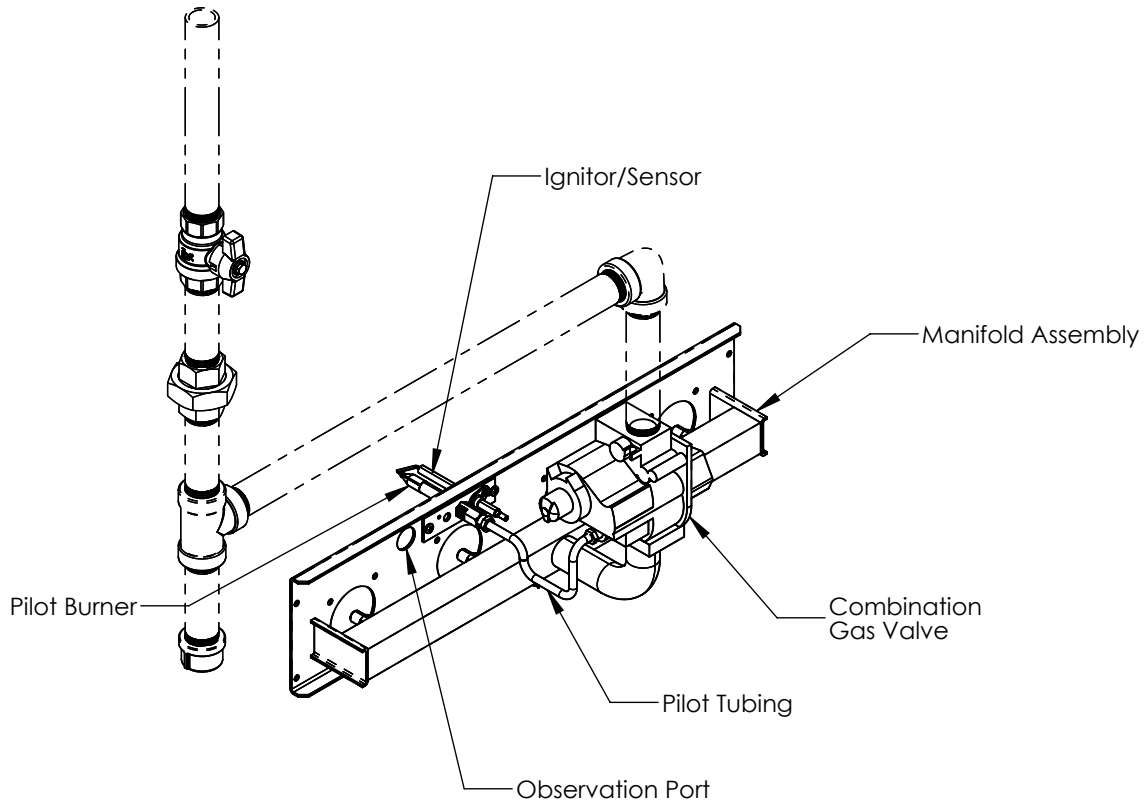

Figure 8-3: STMX075 through STMX299 Gas Manifold and Control Assembly Single Combination Gas Valve
- A. See Figures 8-3 and 8-4 for gas manifold and control assembly configurations.